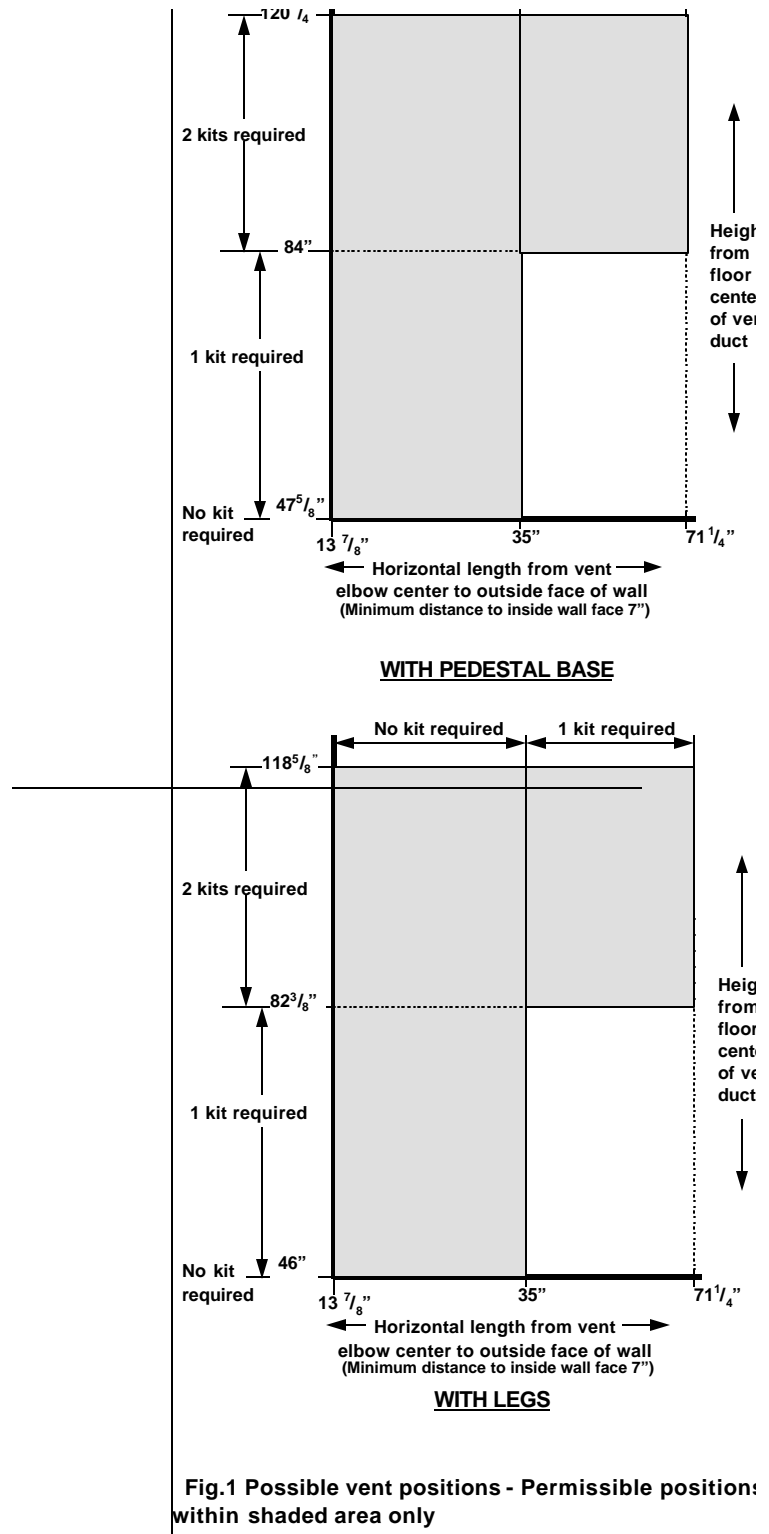

Fig.1 Possible vent positions - Permissible position: within shaded area only
Designed to give a greater range of venting configurations. See venting graph figure 1 for the available configurations. Use of these kits will allow the stove to be sited in a basement provided that the terminal is above ground.
- 4.2 The vent unit is suitable for wall thicknesses between 3" and 24½". If a vent extension is used horizontally, this can be inserted in the wall allowing for wall thicknesses up to 60¾". See figure 1 for limitations on use of horizontal extension.